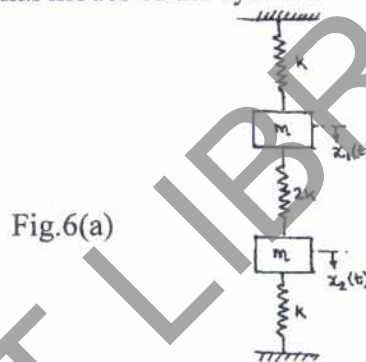

Fig.6(a)
- 6 a. For the system shown in Fig.6(a), determine : i) Equation of motion ; ii) Natural frequencies ; iii) Normal modes of the system. (08 Marks)